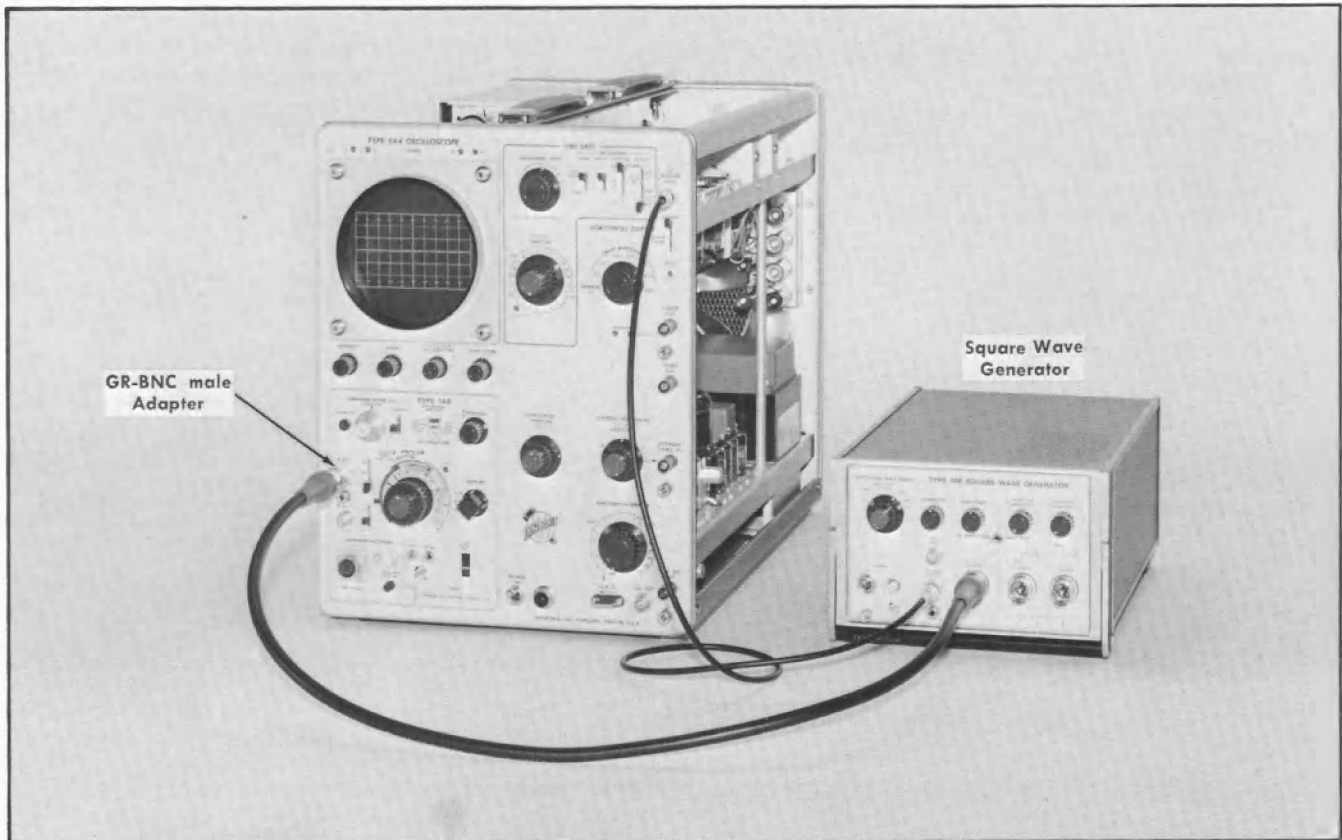

Fig. 6-25. Equipment setup for step 22.
a. Equipment setup is shown in Fig. 6-25. Typical waveforms are shown in Fig. 6-26.